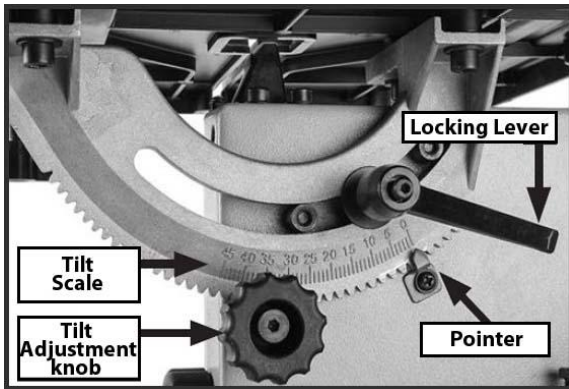

Figure 3
The table on your CX123 can be tilted to make angled or beveled cuts. There is a simple tilt scale located on the underside the band saws table on the trunnion for a quick gauge. For better accuracy always use a protractor. See Figure 3.
2. Carefully loosen the locking lever shown above in Figure 3.